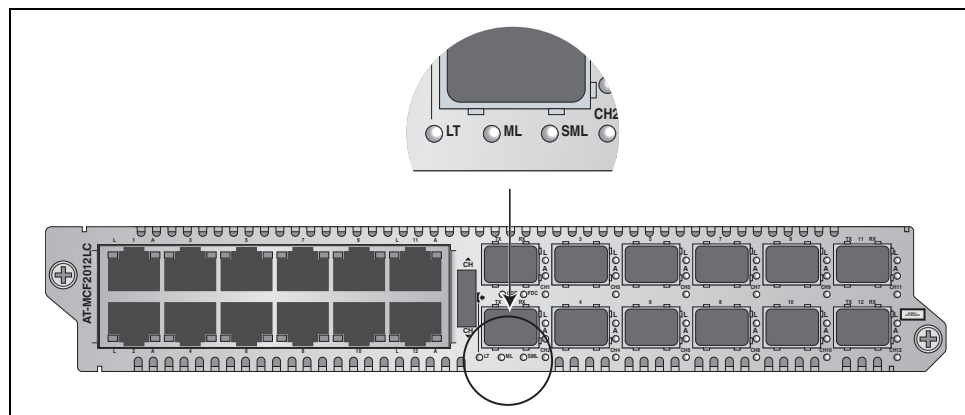
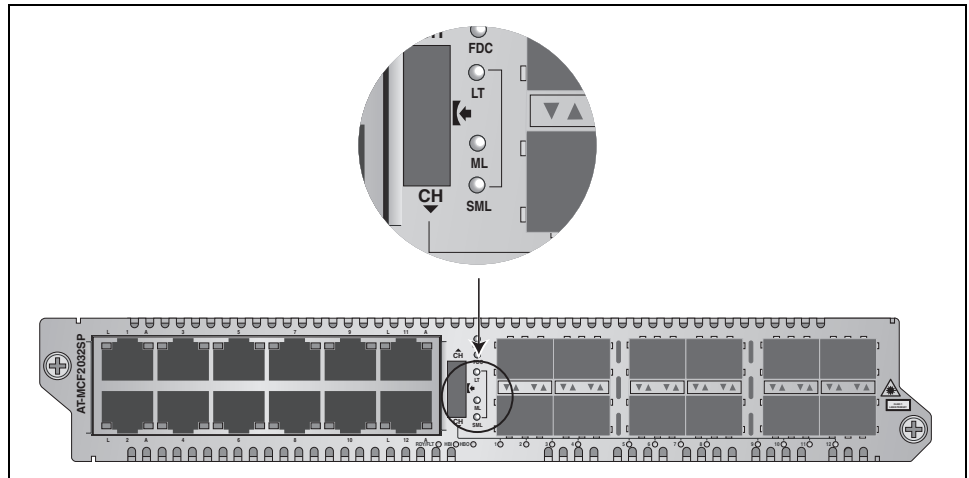

Figure 17. Channel Operating Mode LEDs on the AT-MCF2012LC and AT-MCF2012LC/1 Modules
Figure 18. Channel Operating Mode LEDs on the AT-MCF2032SP Module
Figure 17 and Figure 18 show the locations of the LT, ML, and SML LEDs. You use these LEDs to determine the operating modes of the channels on the module. You can view the operating mode of just one channel at a time with these LEDs. You select the channel with the Mode button, explained in “Mode Button” on page 51. The operating modes are Link Test (LT), MissingLink (ML), and Smart MissingLink (SML).